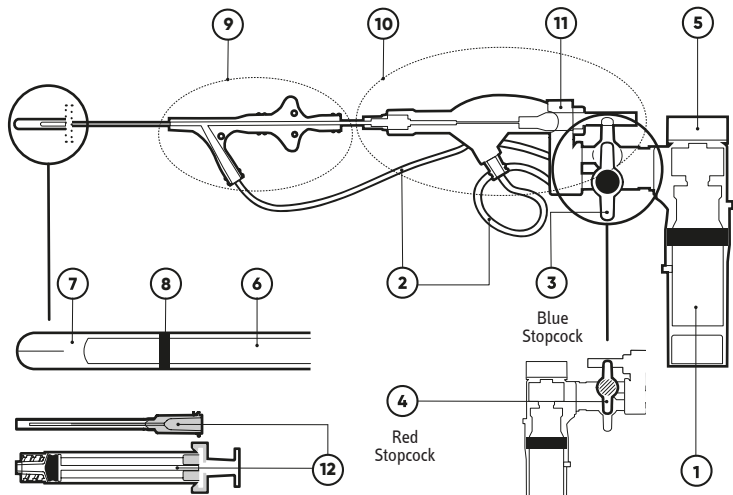

Figure 1
- **A steel canister** (Fig. 1, No. 1) housed in two polycarbonate half-shells.